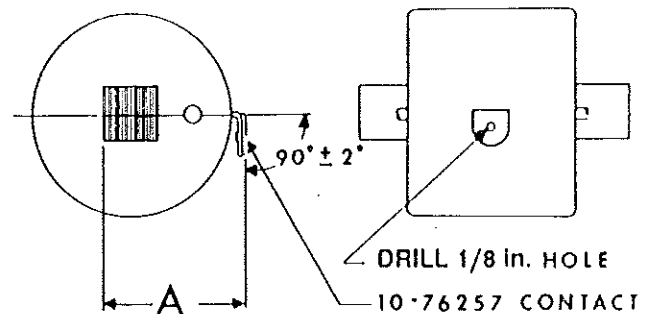

Figure 801. Correct Terminal Dimensions
- D. After contact and terminal have cooled, clean with alcohol. Check the  $90^\circ \pm 2^\circ$  angle as indicated in Figure 801. Dimension A shall be 1.246 inch.